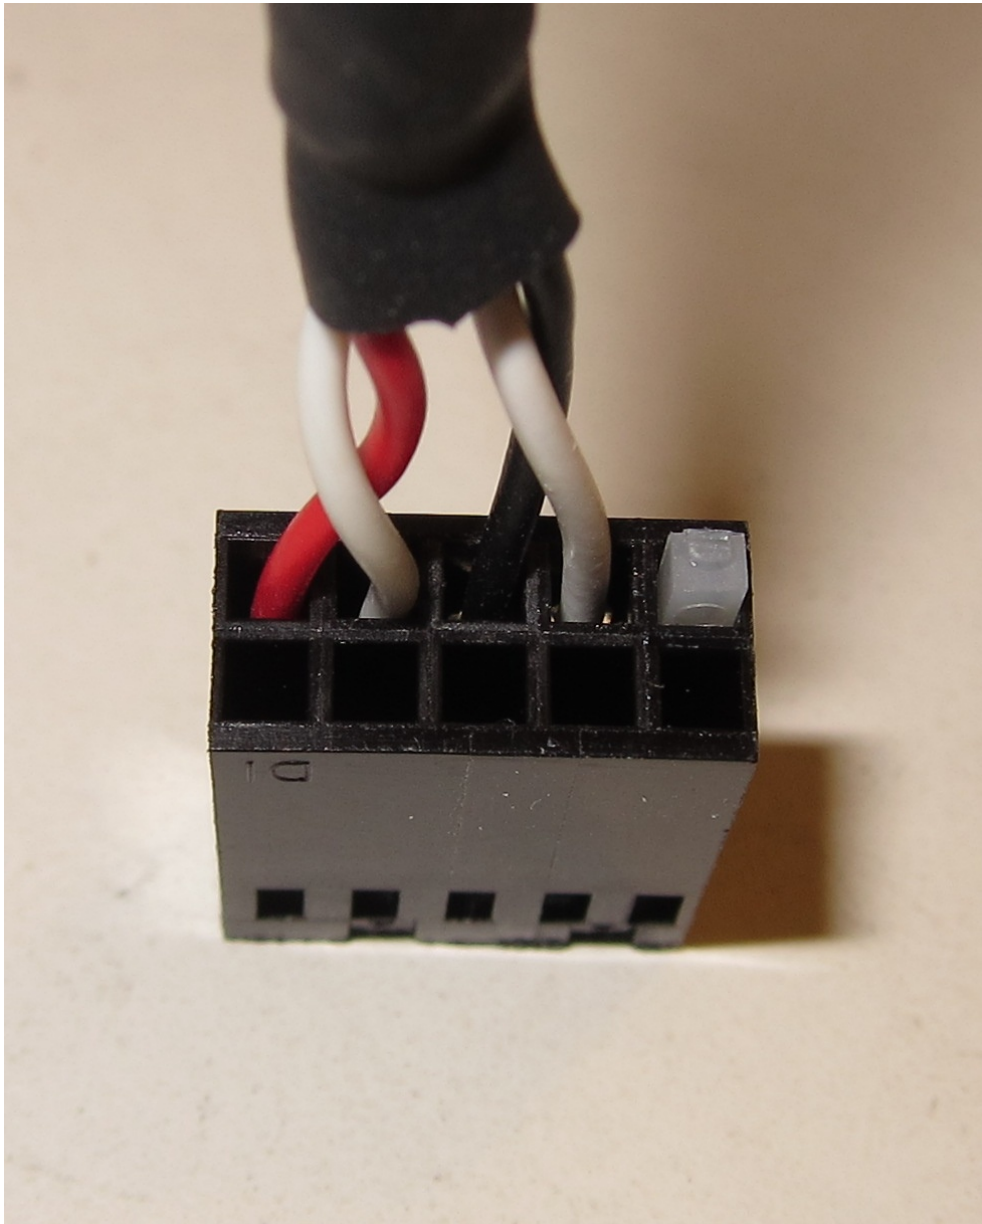

Figure 11: Pin and keying plug configuration at the 5x2 motherboard connector.
- (n) Insert the pins and keying plug (87077-2) into the housing (87456-5). Refer to Figure 11 for appropriate pin and keying plug positions in the housing.